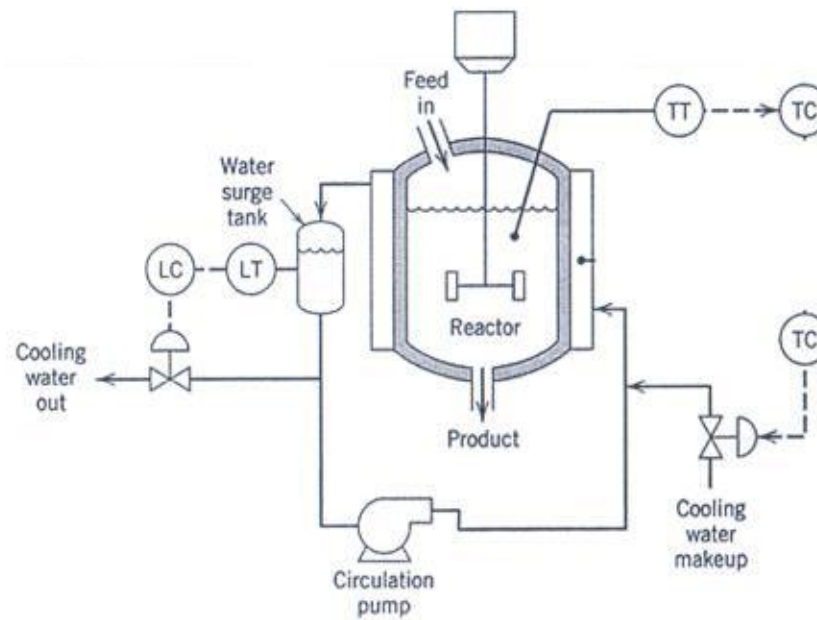

Figure A.4.: Control configuration for exothermic chemical reactor
- [ii] Draw the new control configuration proposed in part [i] in the Figure A.4 provided in Appendix and attached with your answer booklet. [6 marks]